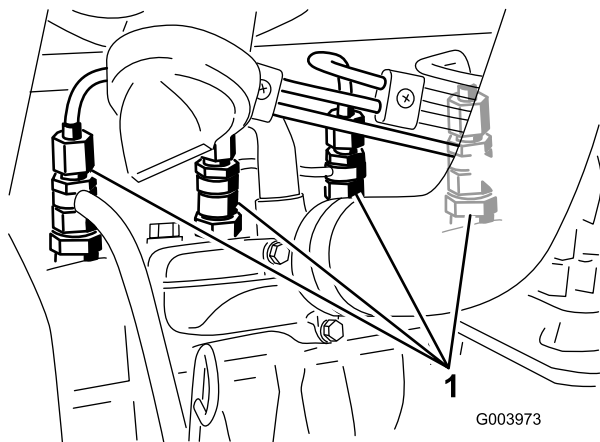

Figure 64
1. Loosen the pipe connection to the No. 1 nozzle and holder assembly (Figure 64).